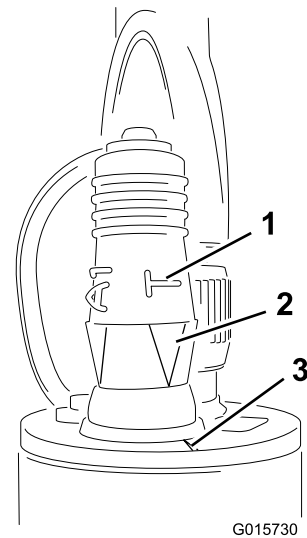

Figure 11
5. Install the programming plug on the sensor (Figure 11).
Important: Ensure that you align the arrow below the sideways “T” with the notch on the top edge of the sensor (Figure 11).